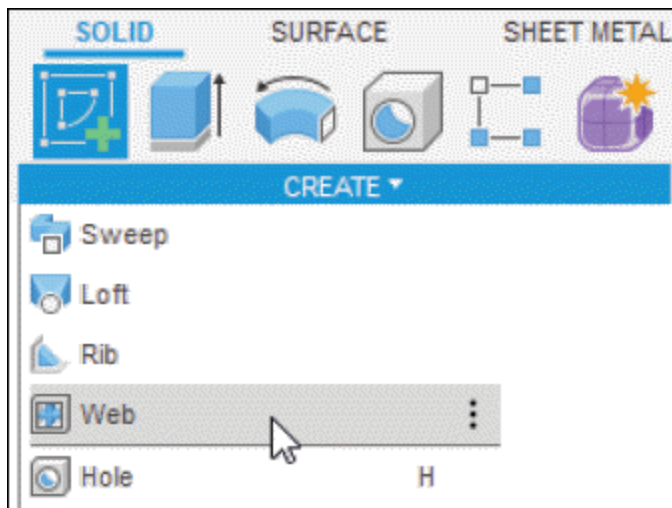
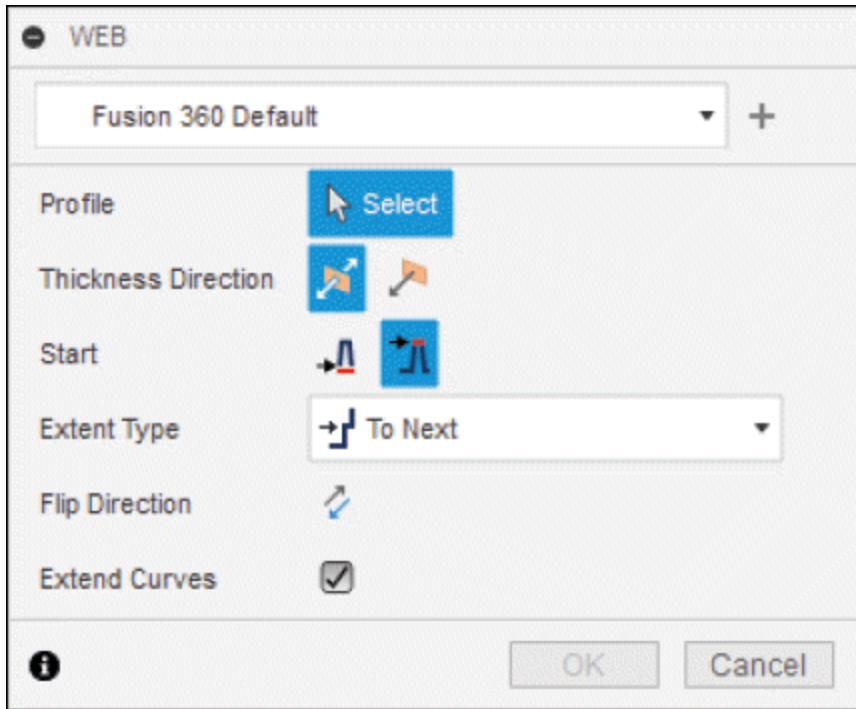

Figure-30. Web tool
Figure-31. WEB dialog box
- Click on **Web** tool from **CREATE** drop-down of **SOLID** tab in the **Toolbar**; refer to Figure-30. The **WEB** dialog box will be displayed; refer to Figure-31.